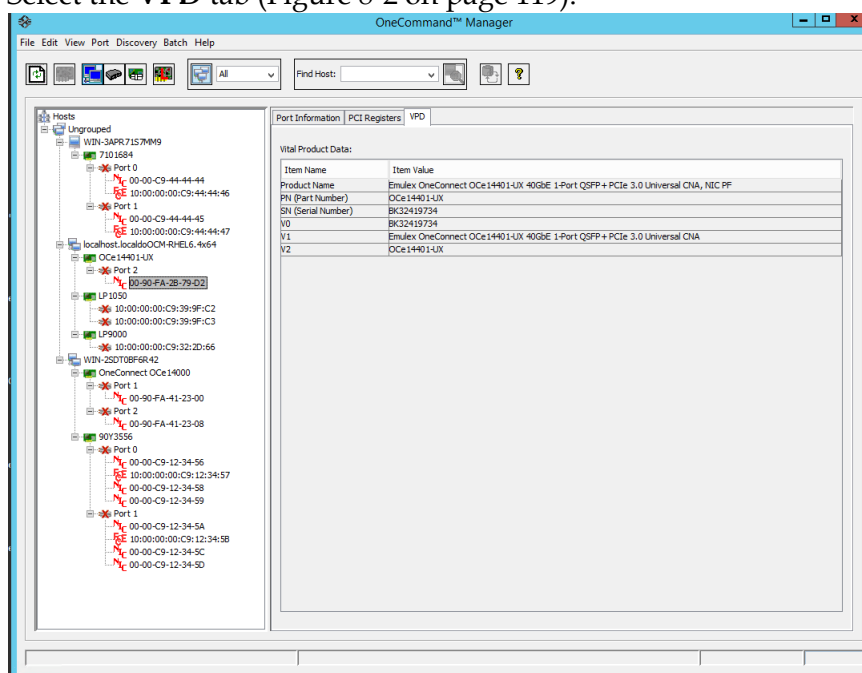

Figure 8-2 NIC VPD Tab
The VPD tab (Figure 8-2 on page 119) displays vital product data (if available) for the selected NIC function such as the product name, part number, serial number, and so on.
3. Select the **VPD** tab (Figure 8-2 on page 119).